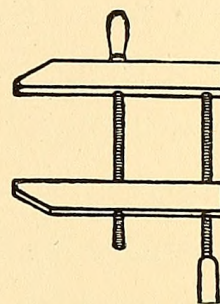

FIG. 40.— Wood Handscrews.
**Wood Handscrews** (Fig. 40) are handy, as are also a pair of